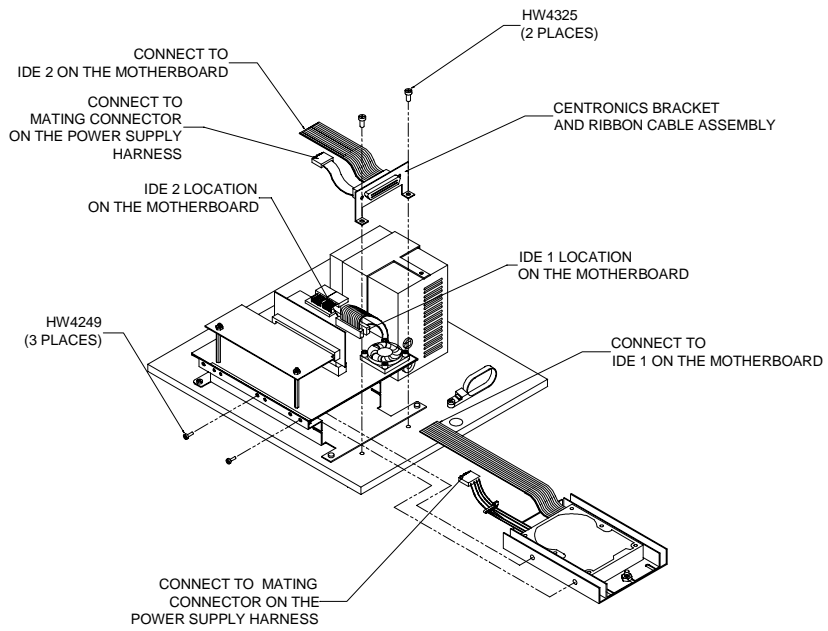

FIGURE 15- HARD DRIVE/CENTRONICS INSTALLATION
13. Disconnect the (4)-pin power connector. Also disconnect the ribbon cable on the CD-ROM, and from the IDE-1 location on the motherboard. See Figure 15.
16. Install the hard drive. Slide hard drive forward underneath the motherboard assembly, matching up the holes on the adapter plate (MW0302-01), with the existing holes on the metalwork. See Figure 15.
17. Secure the adapter plate to the metalwork using the (3) HW4249 screws. See Figure 15.
18. Connect the 2 x 20-pin IDE ribbon cable on the hard drive to the IDE-1 location on the motherboard. (Make sure that the red stripe on the ribbon cable matches up with pin-1 on the IDE-1 location on the motherboard.) See Figure 15 for location.
19. Connect the (4)-pin power connector on the hard drive to the mating connector on the power supply harness.
21. Mount the centronics cable assembly along the front edge of the hard drive adapter plate. Secure the centronics bracket to the CPU shelf using the (2) HW4325 screws. See Figure 15.
22. Connect the 2x20-pin IDE centronics ribbon cable (EC2198-01) to IDE-2 on the motherboard assembly. (Make sure the red stripe on the ribbon cable matches up with pin 1 on the IDE-2 interface connector on the motherboard.) See Figure 15.
23. Connect the (4)-pin power connector on the centronics ribbon cable to the mating connector on the power supply harness.